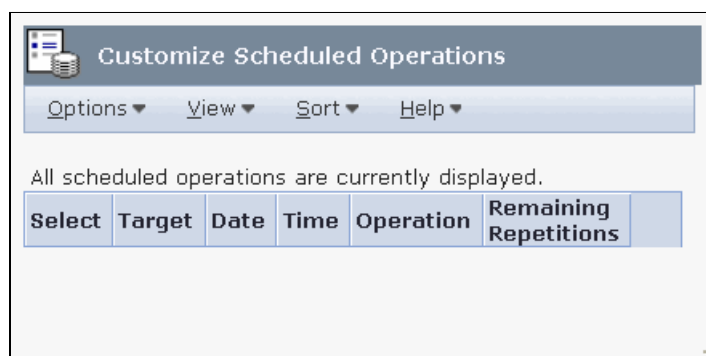

Figure 6-24 Customize Scheduled Operations window
1. In the Customize Scheduled Operations window (Figure 6-24), select **Options** → **New**.